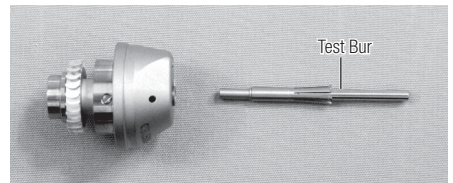

Fig. 20
- 1) Apply oil thinly on the surface of the chuck, insert the Test Bur and push into the rotor shaft. (Fig.20)